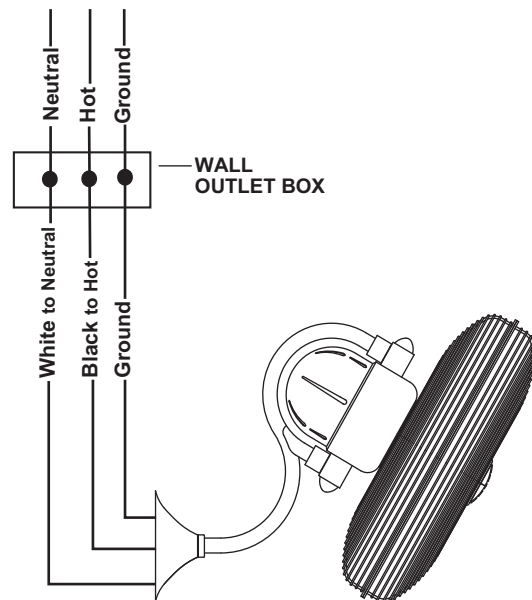

Figure 3
4. Connect the neutral fan wire to the household neutral wire. (Fig. 3)
5. Connect the black, fan blade motor wire to a hot, household supply wire. (Fig. 3)